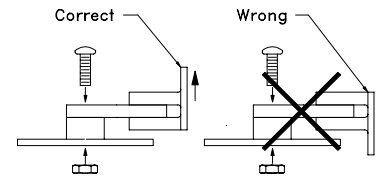

Figure 8 - Assemble Arm to Side Mount
- Using a #8 machine screw and a #8 machine nut, loosely assemble the other end of the suspension arm to a side mount. Make sure that the “foot” of the window mount is pointed away from the side mount, as shown in Figure 8. Repeat for the second arm and side mount.